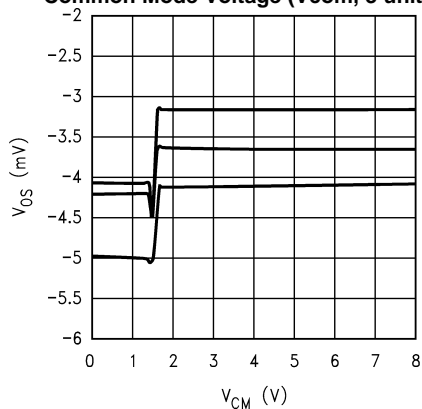

Figure 22.
- (1) All limits guaranteed at room temperature (standard typeface) and at temperature extremes (bold typeface). All room temperature limits are 100% production tested or guaranteed through statistical analysis. All limits at temperature extremes are guaranteed via correlation using standard Statistical Quality Control (SQC) methods. All limits are used to calculate Average Outgoing Quality Level (AOQL).
- (2) Typical numbers are at 25°C and represent the most likely norm.
- (3) Refer to the graphs titled "Input Offset Voltage vs. Common Mode Voltage", Figure 22 through Figure 25.